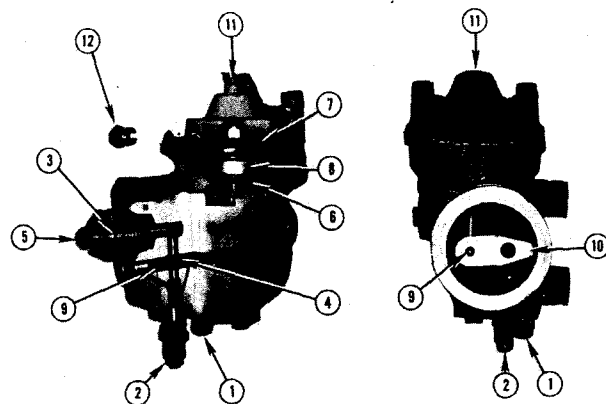

Fig. 5-10, (F-5244). Aneroid cutaway
The aneroid control, Fig. 5-10, provides a fuel by-pass system that responds to air manifold pressure and is used on turbocharged engines for close control of exhaust smoke.
1. Fuel from the fuel pump enters the aneroid and is directed to starting check valve area (5, Fig. 5-10).
2. The starting check valve (3) prevents aneroid from by-passing fuel at engine cranking speeds. For speeds above cranking, fuel pressure forces the check valve open, allowing fuel to flow to valve port (4) of shaft (9).
3. Shaft (9) and its bore form a fuel by-pass valve. This shaft and bore allows passage or restricts fuel flow.
(10) of lever is resting against adjusting screw (1). The amount of fuel by-passed is adjusted by this screw, which protrudes from bottom of aneroid.